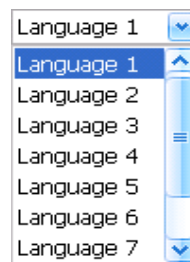

Figure 7.3.2
- (2) Switch the editing language, English, language 1, to language 2, simple Chinese, via compile language in project view (Figure 7.2.1) or via language bar, full down menu (Figure 7.3.2). After switched, the display language will be changed.